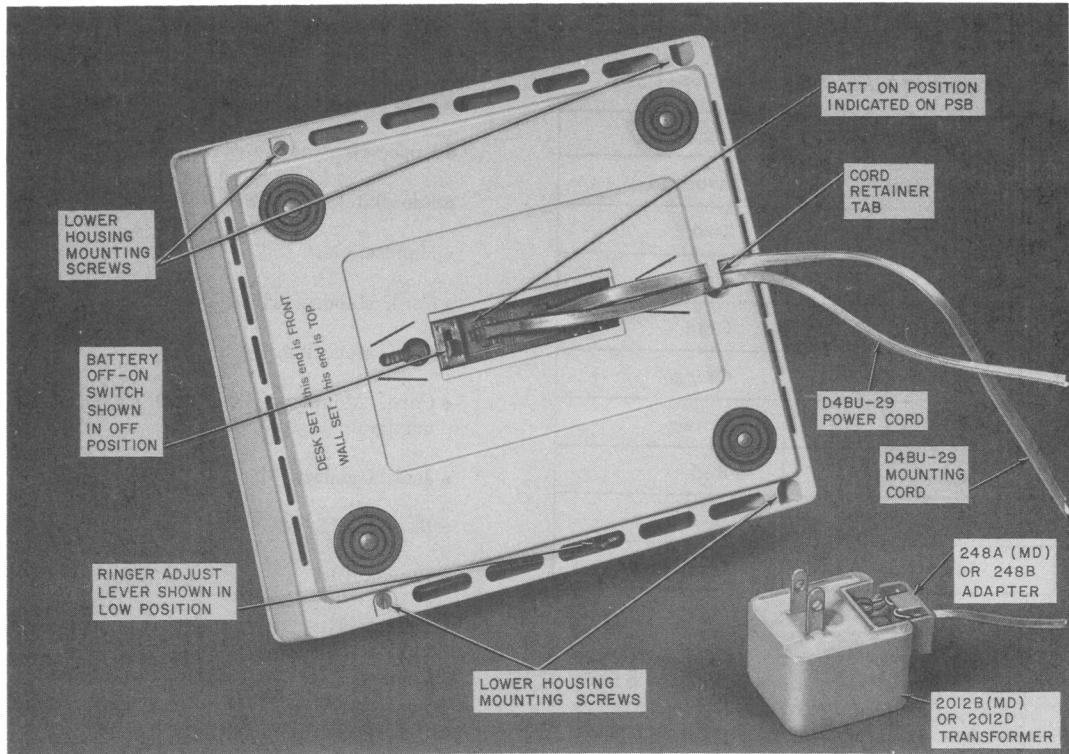

Fig. 2—960A01M Telephone Set, Bottom View
- Battery OFF-ON switch (located on the bottom of the set, Fig. 2), should be in the OFF position when set is not in service.
(1) Adapter, 248A (MD) or 248B (to connect D4BU modular mounting cord to 2012B (MD) or 2012D transformer) Fig. 2.
3.04 Attach 248A or 248B adapter to 2012B or 2012D transformer (Fig. 2) and plug into 110-117 volt ac outlet not controlled by a switch (continuous ac power is required). Plug one end of the D4BU-29 power cord (maximum 14 feet) into the power jack on the bottom of the set (Fig. 15C) and the other end into the 248A or 248B adapter.
3.06 The set is shipped from the factory with the battery switch in the OFF position. After all wiring changes and modifications have been completed, tilt the set up and move the battery switch arm (now visible in the bottom view of the set, Fig. 2) to the ON position.
Note: The switch ON position is indicated on the bottom of the printed wiring board (Fig. 2), and if switch is not placed in ON position, the set will not record or automatically dial.
Note: Dress all cords under retainer tab at bottom rear of housing, Fig. 2.